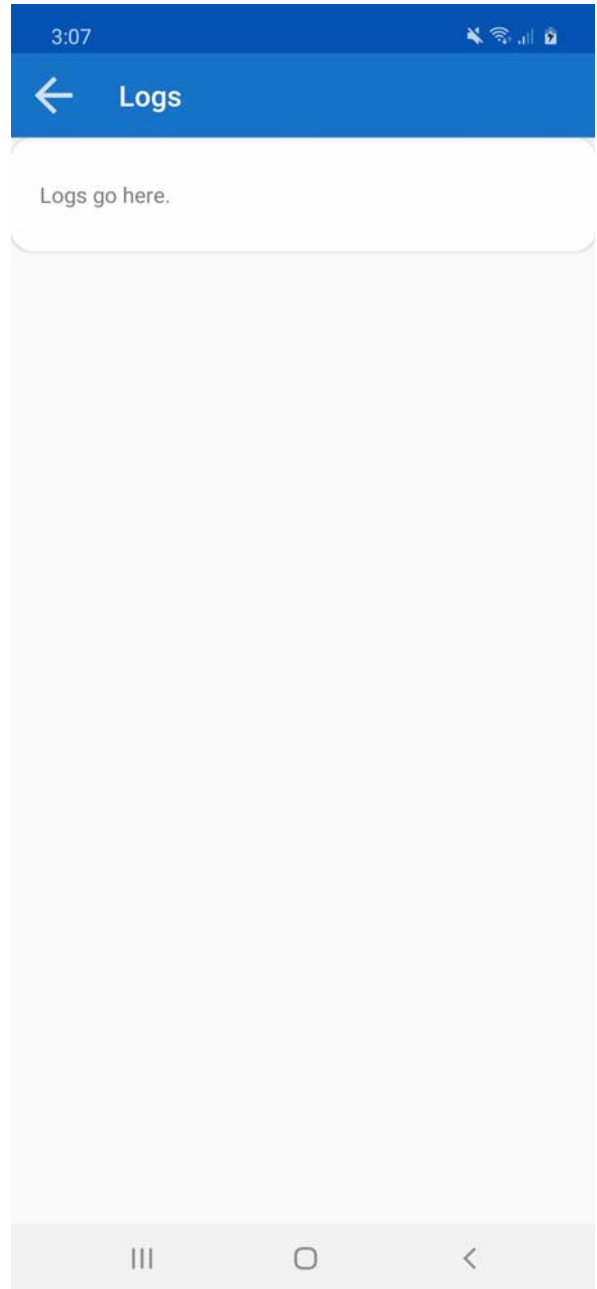

Figure 24. Log Box for the Android App
- All processes log in the **Logs** box (see Figure 24).